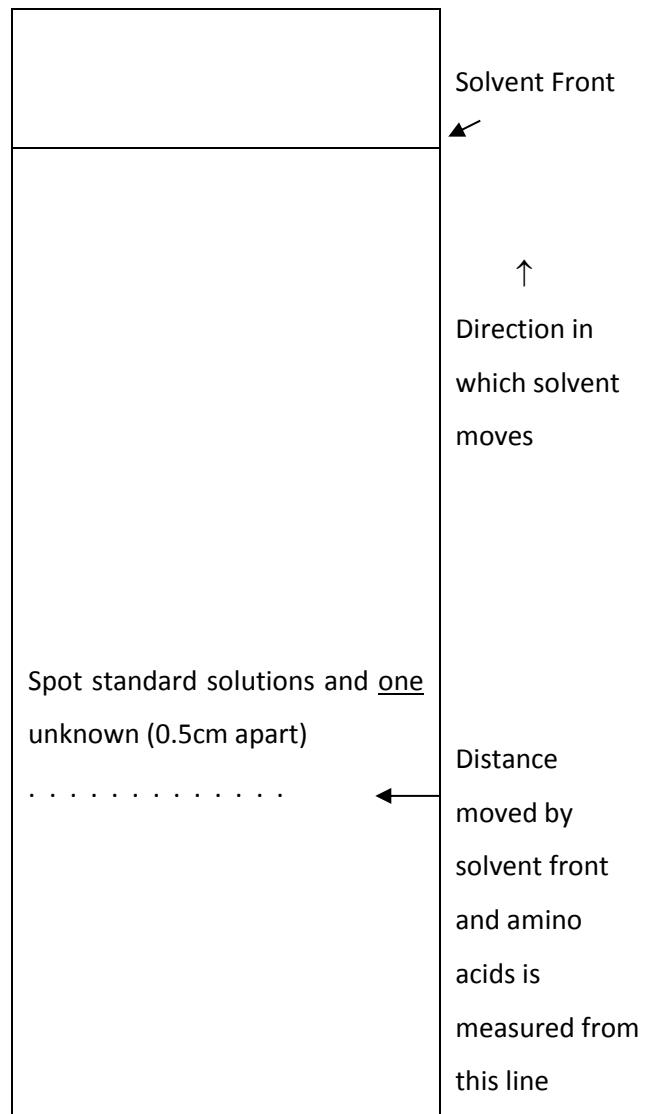

Fig. 1 TLC plate
**finger prints all over the paper.** Mark, at a distance of approximately 0.5 cm apart, positions for the application of amino acid standards and an unknown sample. Apply 5  $\mu$ l quantities of the unknown amino acid mixture to one of the marked positions and similar quantities of the standard amino acids to the remaining positions. See Fig. 1 below. Allow the spots of application to dry by blowing gently with a hair dryer.
- Draw a faint pencil line about 1.0 cm from one edge of the thin layer plate. Mark at a distance of approximately 0.5 cm apart, positions for the application of amino acid standards and an unknown sample. Apply 5  $\mu$ l quantities of the unknown amino acid mixture to one of the marked positions and similar quantities of the standard amino acids to the remaining positions. Please do not touch the plates with your fingers – hold it on the edges. Be careful not to make holes in the thin layer or to scratch it. See Fig. 1 below. Allow the spots of application to dry by blowing gently with a hair dryer.